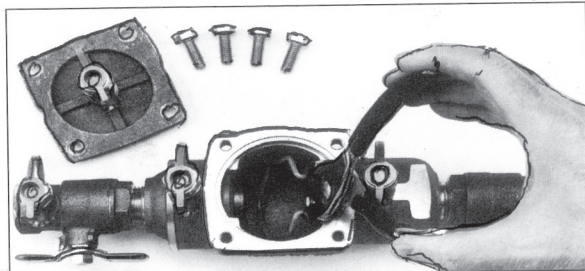
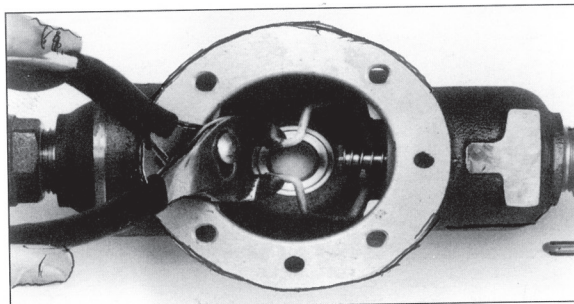

Figure 2a
Figure 2
3. After taking the cover off either check valve can be removed by simply using pliers to grasp the spring clip (RPZ figure 2, DCV figure 2a).
- b. Use a 12 point 1-3/8" socket to unscrew check valve out from the body (see figure 2).